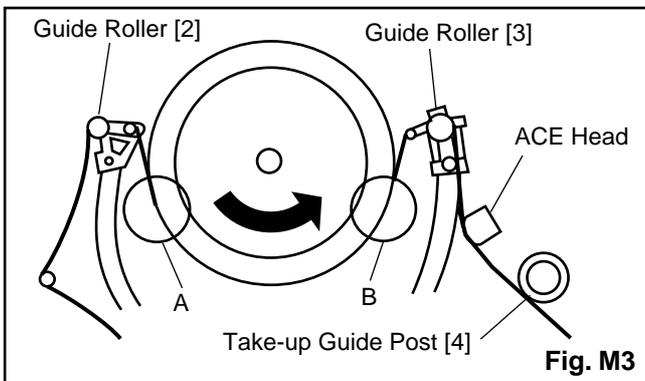

Fig. M3
1. Playback a blank cassette tape and check to see that the tape runs without creasing at Guide Rollers [2] and [3], and at points A and B on the lead surface. (Refer to Fig. M3 and M4.)
2. If creasing is apparent, align the height of the guide rollers by turning the top of Guide Rollers [2] and [3] with a Guide Roller Adj. Screwdriver. (Refer to Fig. M3 and M5.)
3. Check to see that the tape runs without creasing at Take-up Guide Post [4] or without snaking between Guide Roller [3] and ACE Head. (Fig. M3 and M5)
- Playback the Gray Scale on the Alignment Tape (FL6N8). Set the Tracking Control Circuit to the preset position by pressing CH UP button and then "PLAY" button on the unit. Adjust the height of Guide Rollers [2] and [3] (Fig. M3, Page 2-3-3) watching the oscilloscope display so that the envelope becomes as flat as possible. To do this adjustment, turn the top of the Guide Roller with the Guide Roller Adj. Screwdriver.
- If the envelope is as shown in Fig. M7, adjust the height of Guide Roller [2] (Refer to Fig. M3) so that the waveform looks like the one shown in Fig. M9.
- If the envelope is as shown in Fig. M8, adjust the height of Guide Roller [3] (Refer to Fig. M3) so that the waveform looks like the one shown in Fig. M9.
- When Guide Rollers [2] and [3] (Refer to Fig. M3) are aligned properly, there is no envelope drop either at the beginning or end of track as shown in Fig. M9.
Note: Upon completion of the adjustment of Guide Rollers [2] and [3] (Refer to Fig. M3), check the X Value by pushing the CH UP or DOWN buttons alternately, to check the symmetry of the envelope. Check the number of pushes to ensure preset position. The number of pushes CH UP button to achieve 1/2 level of envelope should match the number of pushes CH DOWN button from center. If required, redo the "X Value Alignment."